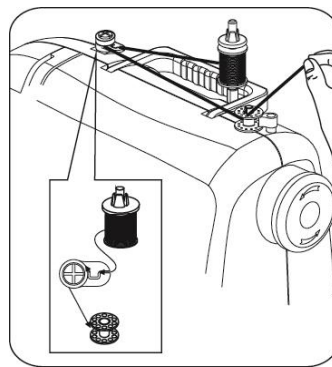

Fig.32
5. Turn on the machine and use foot pedal to wind the bobbin. Hold the thread end on hand for several seconds in case the thread break away from the bobbin. When the thickness of thread on the bobbin gets close to the bobbin winder stop, the machine will stop automatically.(Fig.32)